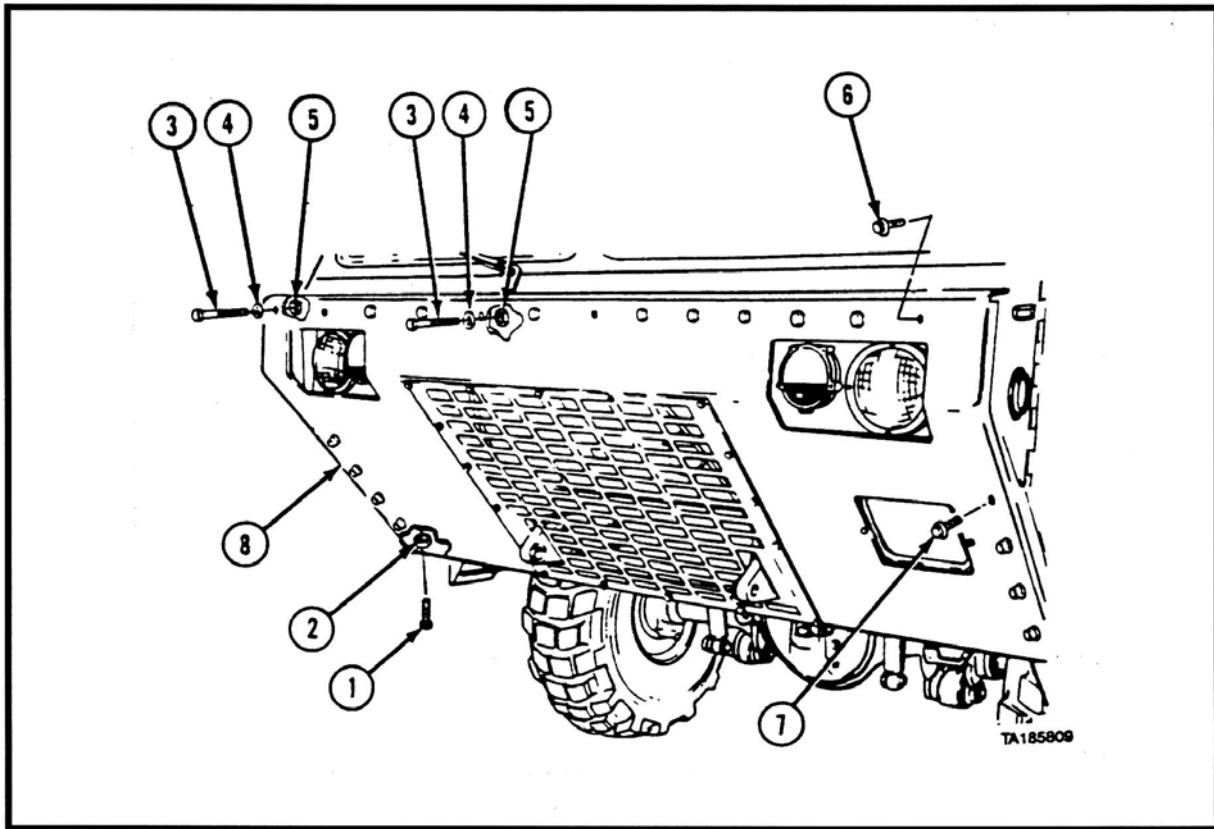

Figure 5. Removing the Skid Plate.
- a. Remove nine screws (Item 1 in Figure 5) and nuts (2) from the Skid Plate.